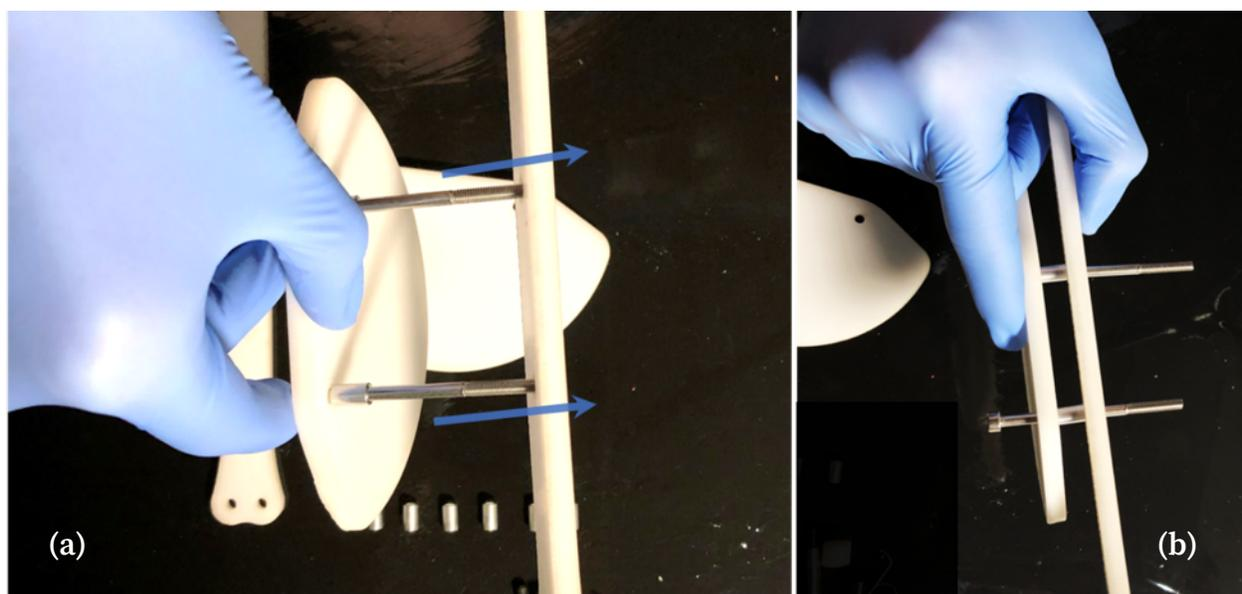

Figure 4
Step 5: Take the lever arm, screw assembly from step 2, with the offset hole pointed down, and insert the ends of the two M4X65 screws [Part 4] from the compressor, screw, and spacer assembled in steps 3 and 4 into the two open holes near the center (Fig. 4).